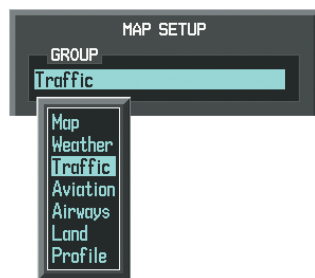

Figure 6-142 Navigation Map Page Setup Menu
- 4) Turn the small **FMS** Knob to select the Traffic Group and press the **ENT** Key (Figure 6-142).